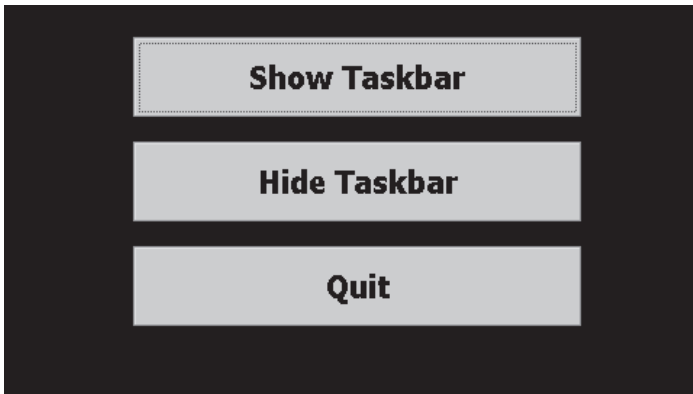

Fig. 121: Show/Hide Taskbar Screen
- Press SHOW TASKBAR (Fig. 121) to show the taskbar and then press QUIT to exit the taskbar application